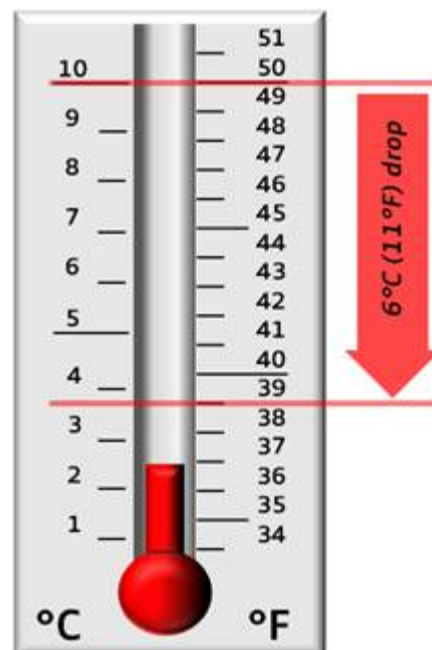

Figure 1. Example of a 6°C (11°F) drop: From 10°C (50°F) to 4°C (39°F) within one hour.
- Example of a 6°C (11°F) drop: From 10°C (50°F) to 4°C (39°F) within one hour (Figure 1).